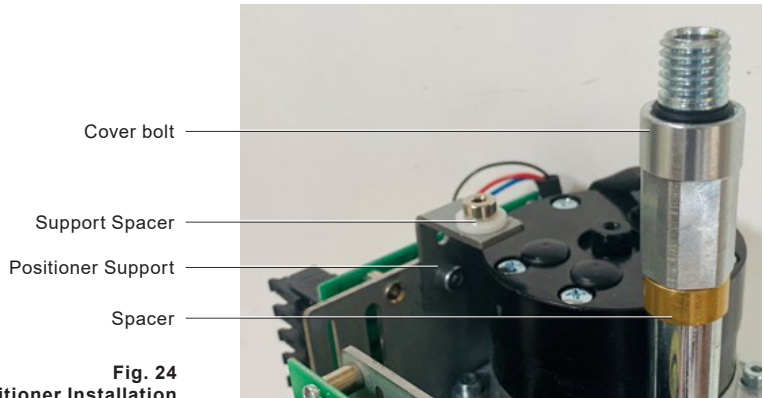

Fig. 24
- Fix the Positioner Support to the main board plate with the pin supplied (Figure 24)